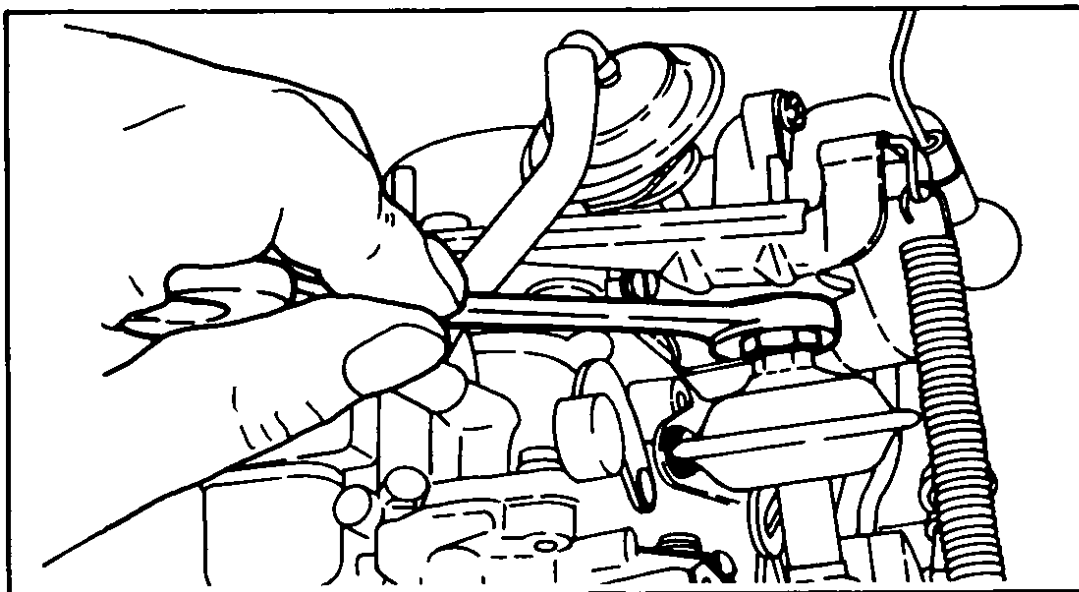

Fig 52 Dash pot adjustment
- 3 Attach a tachometer according to the manufacturer's instructions and loosen the dash pot locknut, Fig 52.